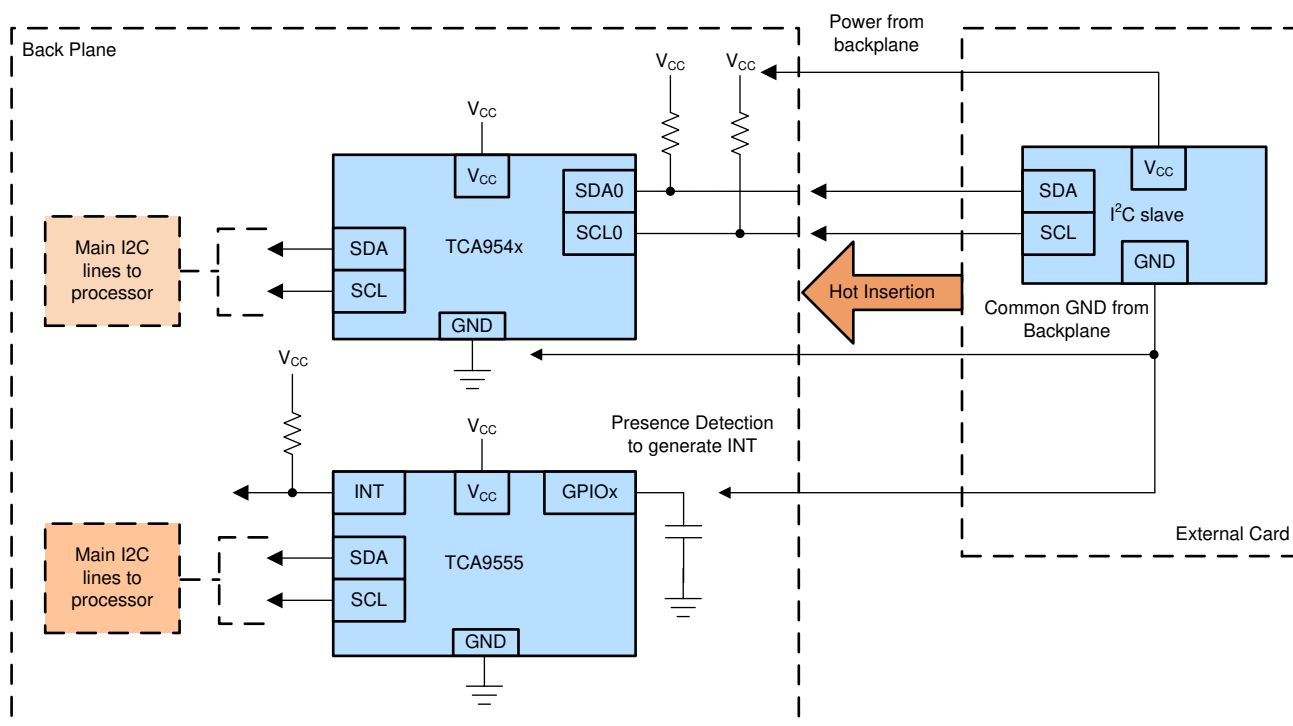

Figure 3-1. Discrete Hot Insertion Support on a Back Plane
A discrete approach to preventing a glitch from occurring during the hot insertion event can be implemented using an I²C switch or I²C buffer with an enable pin. This can be accomplished by designing the I²C switch or buffer to sit on the edge of the backplane. For the I²C switch, a presence detect signal should be placed on the external card and feed into the backplane interrupt detection system. This tells the processor when an external card has been connected to the backplane and can extract data from the downstream I²C slave. Figure 3-1 shows an example of this being implemented with the presence detection signal feeding into a TCA9555 input. This set up allows for multiple cards to be inserted by using the spare channels on the TCA954x (I²C switch) and TCA9555 (I²C I/O Expander) for the interrupt detection. The TCA9555 is not necessary though if the processor has unused GPIOs available.
- The switch in Figure 3-1 can be replaced with an I²C level shifter or I²C buffer with an enable pin.